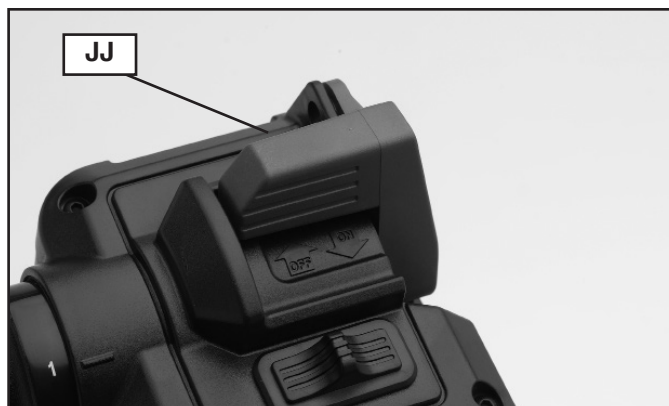

Fig. 22
To turn lathe on, lift switch paddle (JJ) Fig. 22 up to the "ON" position. To turn lathe off, push switch paddle down to the "OFF" position